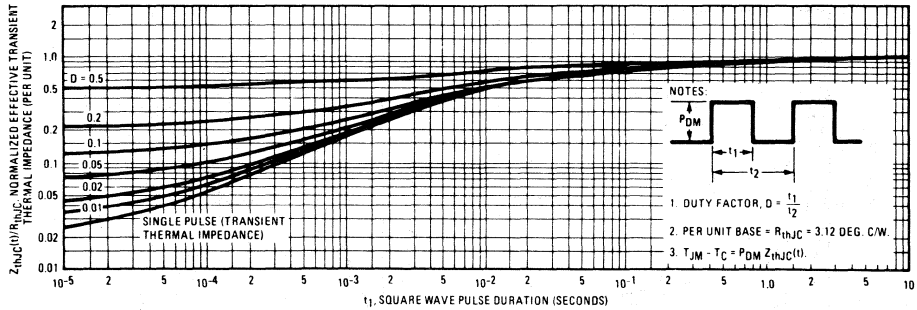

Fig. 5 - Maximum Effective Transient Thermal Impedance, Junction-to-Case Vs. Pulse Duration
① T_J = 25°C to 150°C.
② Pulse Test. Pulse width ≤ 300μs, Duty Cycle ≤ 2%.
③ Repetitive Rating. Pulse width limited by max. junction temperature. See Transient Thermal Impedance Curve (Fig. 5).